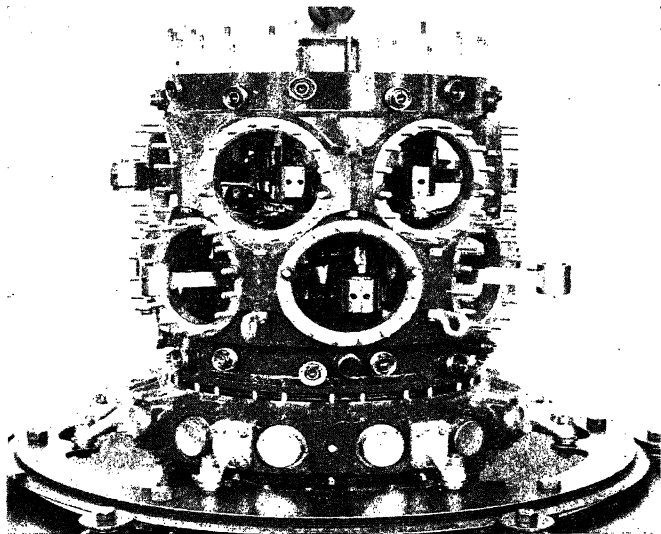

FIG. 6.—Power section crankcase.
**Power Section.**—The power section is removed from the blower section as a unit (Fig. 6). Remove the oil pressure pipe from the blower section to the power section, and on C type engines, remove the oil scavenge pipe from the power section to the blower section. After the retaining nuts have been removed from the studs between the power and the blower section, the power section may be lifted from the blower section with a chain hoist. Lift vertically until the accessory drive shaft has cleared the bushing in the end of crankshaft.